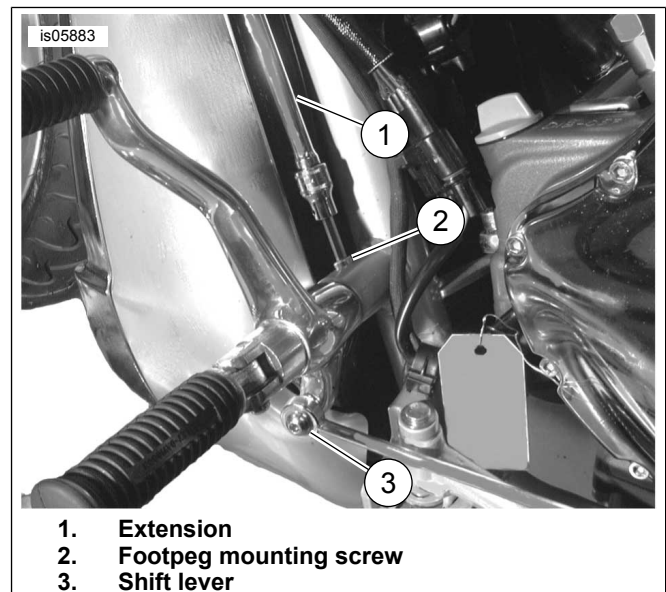

Figure 2. Remove Left Side Footpeg
2. See Figure 2. Remove screw securing left side footpeg mount. Slide the mount out through shift lever and remove. Save screw for installation.